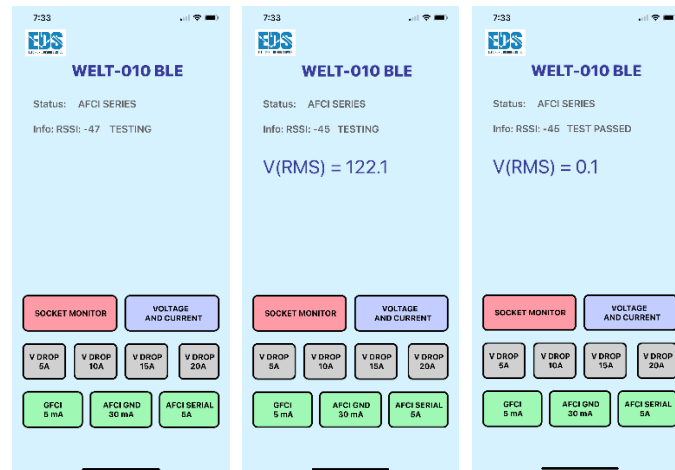

Figure 21 AFCI Test screenshots
*AFCI Series Tests Operation (see Figure 21):*